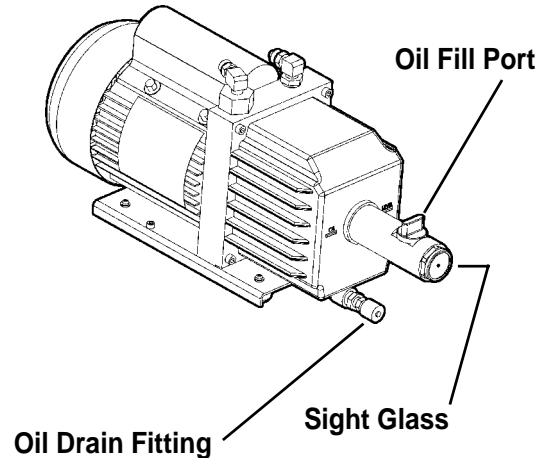

Figure 13
3. Refer to Figure 13, and remove the brass plug from the vacuum pump's oil fill port. (The pump drains faster when vented.)
5. Attach the flexible tube and cap to the oil bottle; pour five (5) ounces of vacuum pump oil into the fill port.